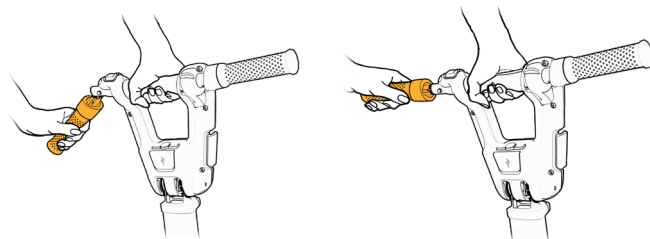

Figure 16
13. Open both sides of the handlebar (see Figure 16).